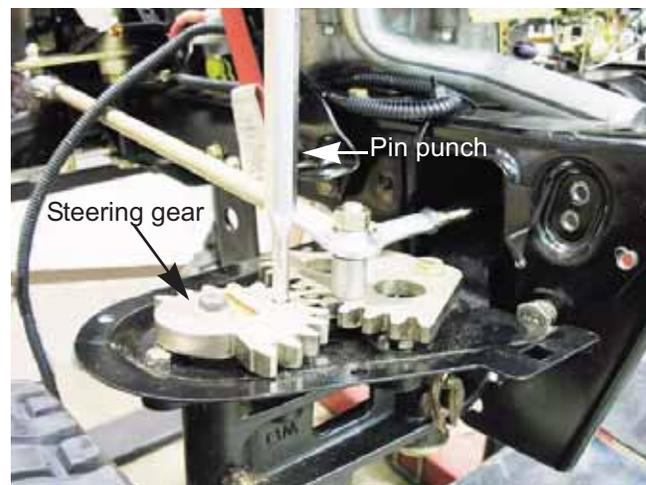

Figure 6B.79
4. Insert a 5/16" pin punch into one of the alignment holes to lock the steering gears in place. See Figure 6B.79.